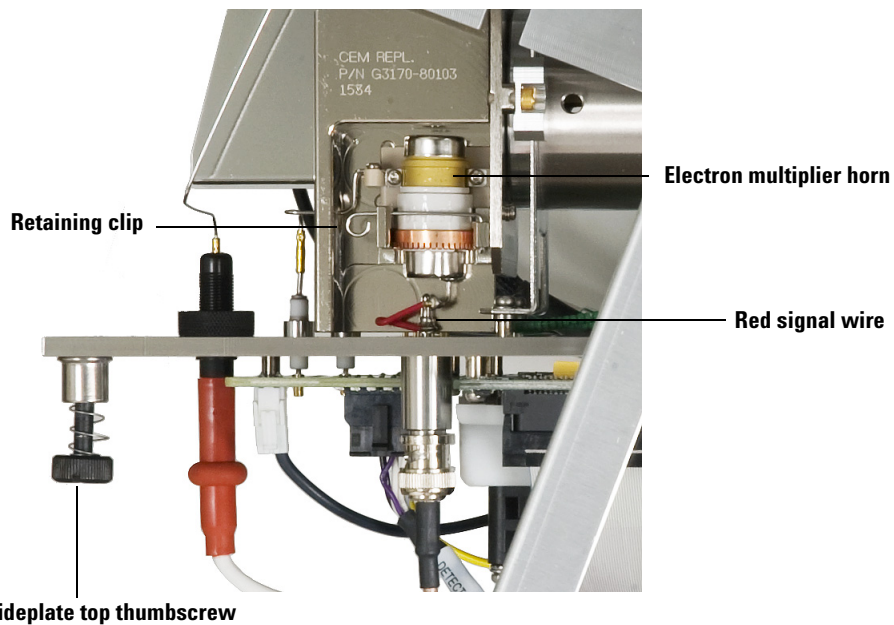

Figure 39 Replacing the electron multiplier horn
- 3 Open the retaining clip (Figure 39). Lift the arm of the clip up and swing the clip away from the electron multiplier horn.